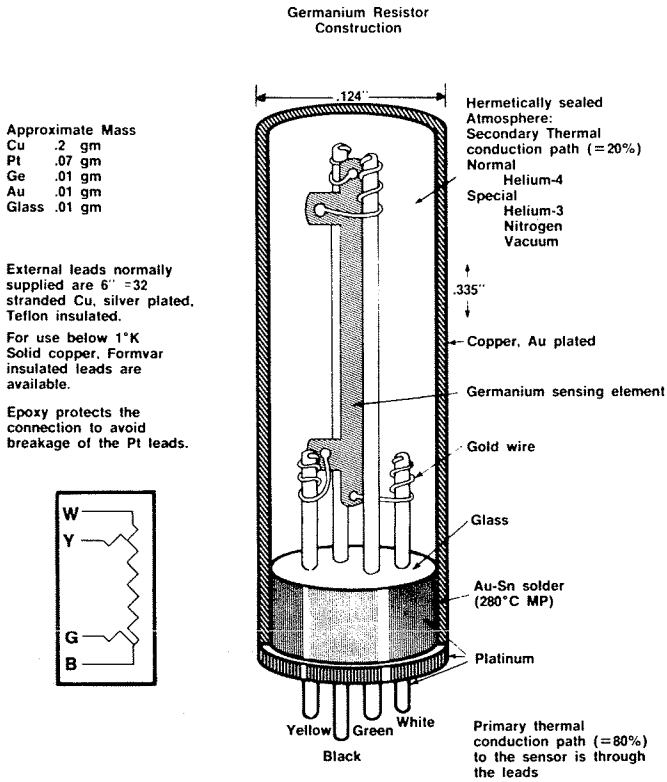

Figure 1
2. Thermal heat-sink of diode thermometry is not as critical as it is, for example, for resistance thermometers. For most resistance thermometers, construction of the sensor is such that the sensing element is both thermally and usually electrically isolated from its case (Figures 1 and 2). The result is that the main thermal input to the device is through the electrical leads. Therefore, the resistors have a tendency to read the lead temperature rather than the case temperature. To solve this problem, considerable care must be taken to properly heat-sink these leads.